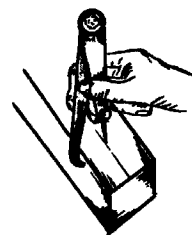

FIG. 14 SCRIBING A LINE
- Grasp the top of the caliper with the thumb and forefinger of the right hand. Place the curved tip of the caliper against the surface from which the line is being located, keeping the tip of the caliper leg square with the surface from which it is guided and in contact with the surface. Scribe the line by exerting a slight pressure on the scriber and drawing the caliper along the surface being scribed. (Fig.14).